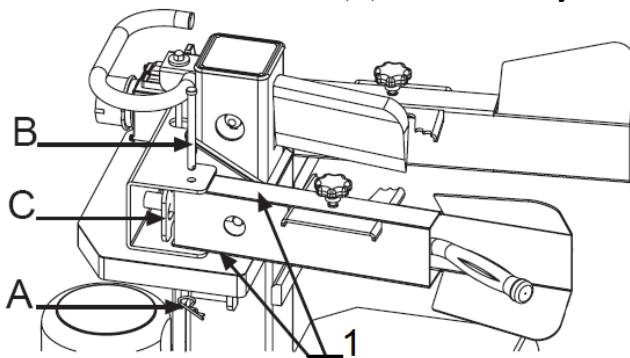

Fig.6 : (1) apply grease
1. Pull Spring Pin (A) to remove the Lock Pin (B). (see fig.6)